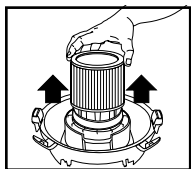

FIGURE 18
25. Slide the cartridge filter off the lid cage. **FIGURE 18.**